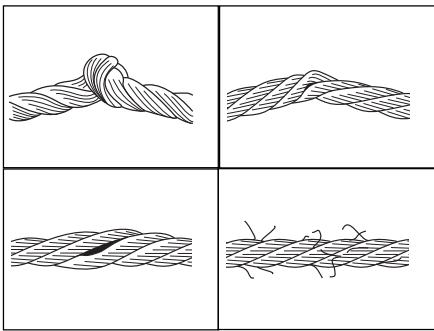

FIGURE 14
- The rope exhibits basket-like shapes, kinks, or any abnormal deformation. See Figure 14.